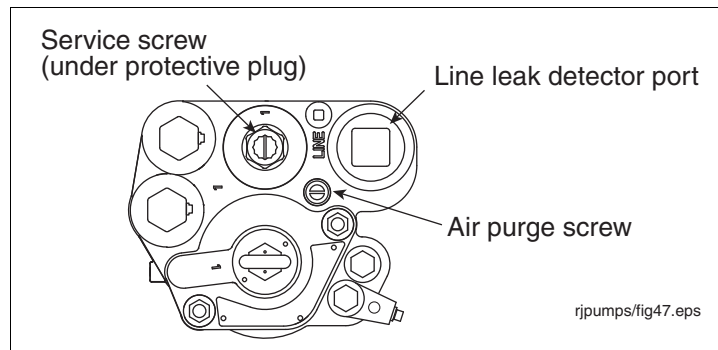

Figure 44. Locating discharge port plug for line leak transducer
25. Turn the air purge screw 2 - 3 turns counterclockwise (see Figure 44).
6. Open the air purge screw 2 - 3 turns counterclockwise (see Figure 44).